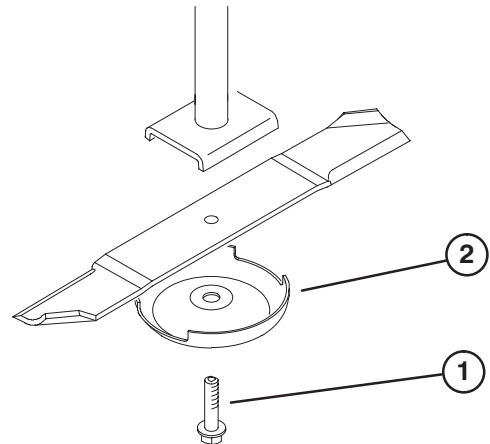

Figure 31
4. Grasp end of blade using a rag or thickly padded glove. Remove blade bolt, anti-scalp cup, and blade from spindle shaft (Fig. 31).
5. Install blade—sail facing (up) toward cutting unit—with anti-scalp cup and blade bolt (Fig. 31). Tighten blade bolt to 85–110 ft.-lb.